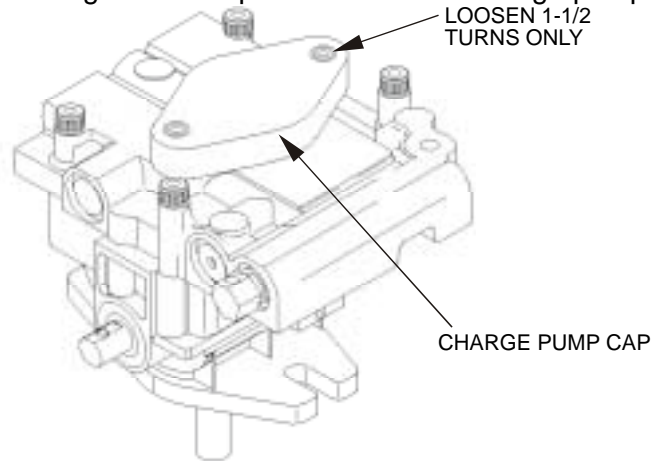

FIGURE 6
- If either drive wheel does not rotate, one or both of the charge pumps (located on the top of the main pump as shown in Figure 6) may have lost their "prime". Refer to Section 5.1.11.
The critical area for purging air from the hydraulic system is between the oil reservoir and each charge pump located on the top of each variable displacement pump. (See Figure 6). Air in other parts of the hydraulic system will be purged through normal operation once the charge pump is "primed".
- e) To "prime" charge pump, loosen two hex socket head capscrews (shown in Figure 6) **1-1/2 turns only. Make sure engine is not running.** Lift the charge pump housing upward and wait for a steady flow of oil to flow out from under the housing. Retighten the capscrews. Do this for both pumps.